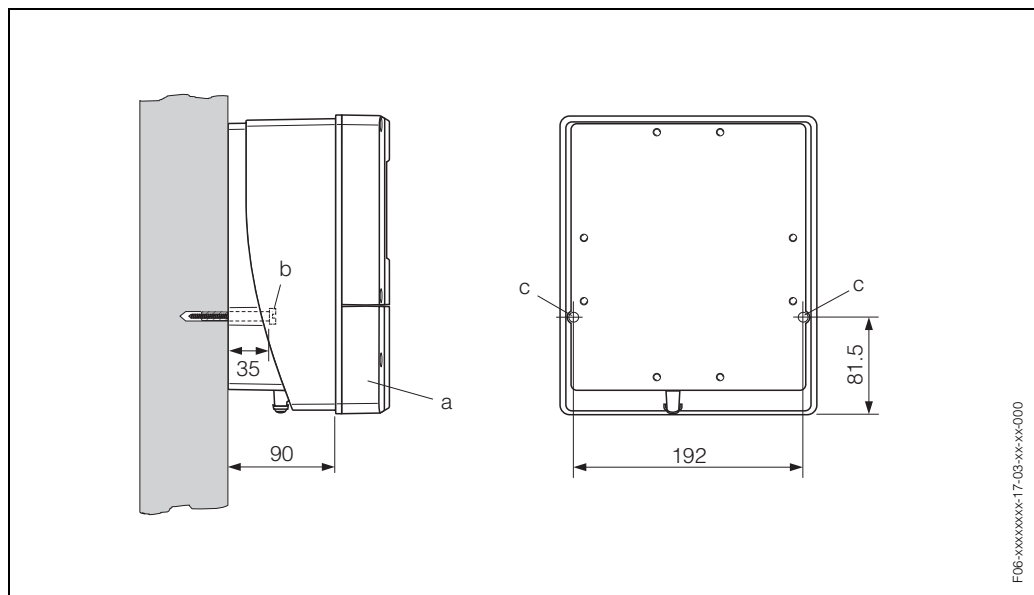

Fig. 43: Direct wall mounting
1. Drill the holes as illustrated in Fig. 43.